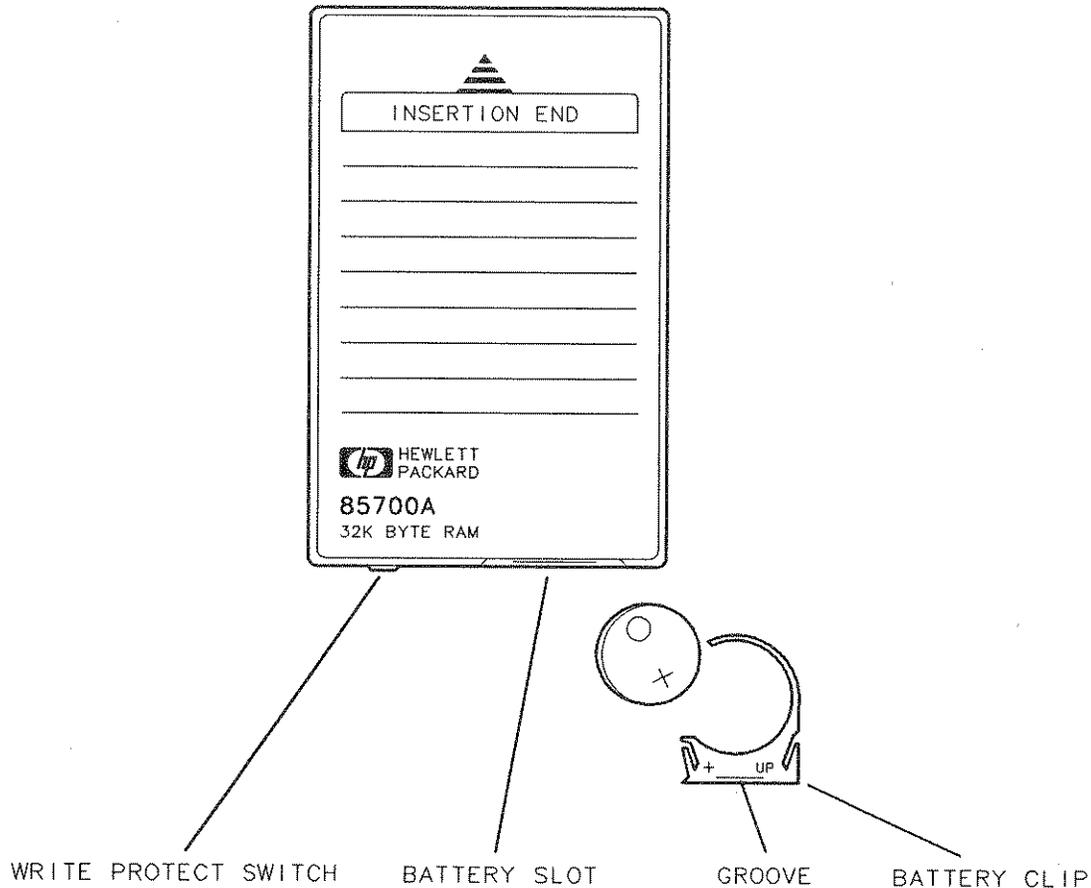

Figure 2-7. Memory Card Battery Replacement
1. Locate the groove along the edge of the battery clip. See Figure 2-7.
4. Insert the battery clip into the memory card, holding the clip as oriented in Figure 2-7. (Face the "open" edge of the clip toward the write-protect switch on the memory card.)